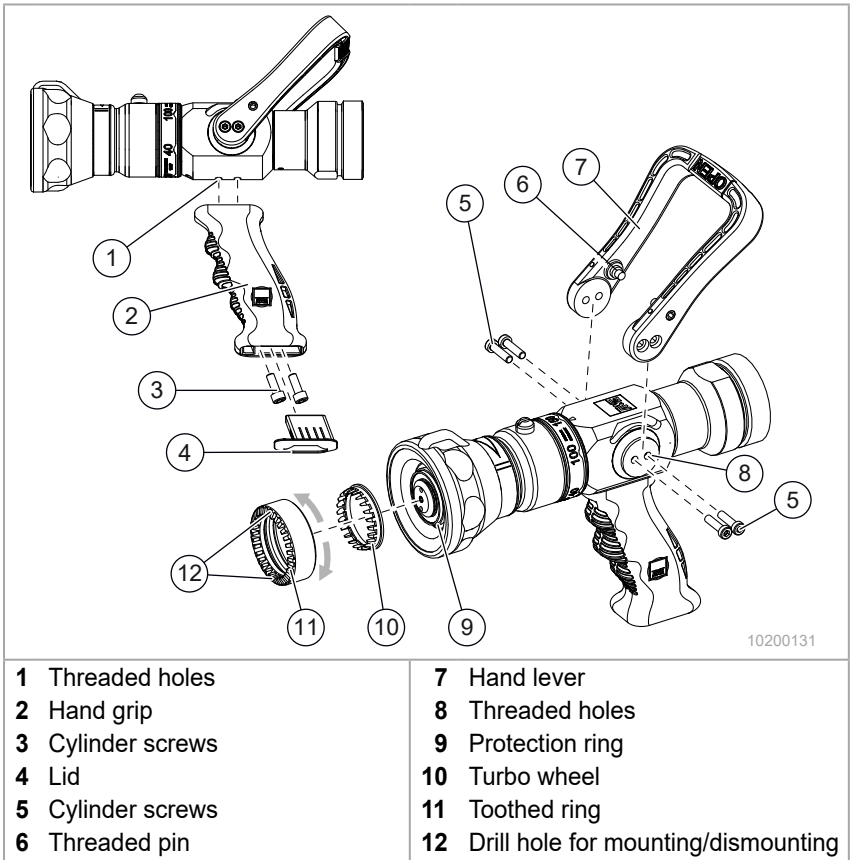

Fig. 3 Replacing the handle and hand lever
1. Remove the cover (Fig. 3/4) on the handle; this will damage the cover.
2. Unscrew the two cylinder screws (Fig. 3/3) and remove the handle (Fig. 3/2). Clean the housing if necessary.
3. Insert a cylinder screw into the borehole of the new handle, position the handle on the corresponding threaded hole of the housing (Fig. 3/1) and screw it tight.
1. Unscrew the cylinder screws (Fig. 3/5) on each side.
2. Remove the control lever (Fig. 3/7). The threaded pins (Fig. 3/6) remain in their position. Clean the valve housing if necessary.
3. Position the control lever in the correct position on the valve housing using the threaded pins (Fig. 3/6).
4. Apply a medium-strength screw locking agent to the cylinder screws (Fig. 3/5), insert the cylinder screws and tighten them.
1. Insert either the pins of a special tool or, for example, insert two cylindrical pins with a diameter of 3 mm into both holes (Fig. 3/12) and unscrew the toothed ring (Fig. 3/11) anti-clockwise from the protective ring (Fig. 3/9).
2. Remove the turbo wheel (Fig. 3/10) from the protection ring.